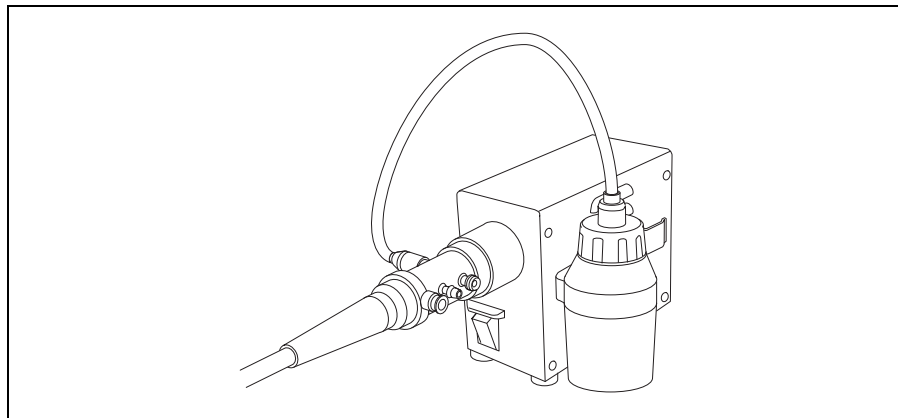

Figure 3.6
6. Insert the Alcohol Container's nozzle into the Water Container Connector on the Light Guide Connector (see Figure 3.6).